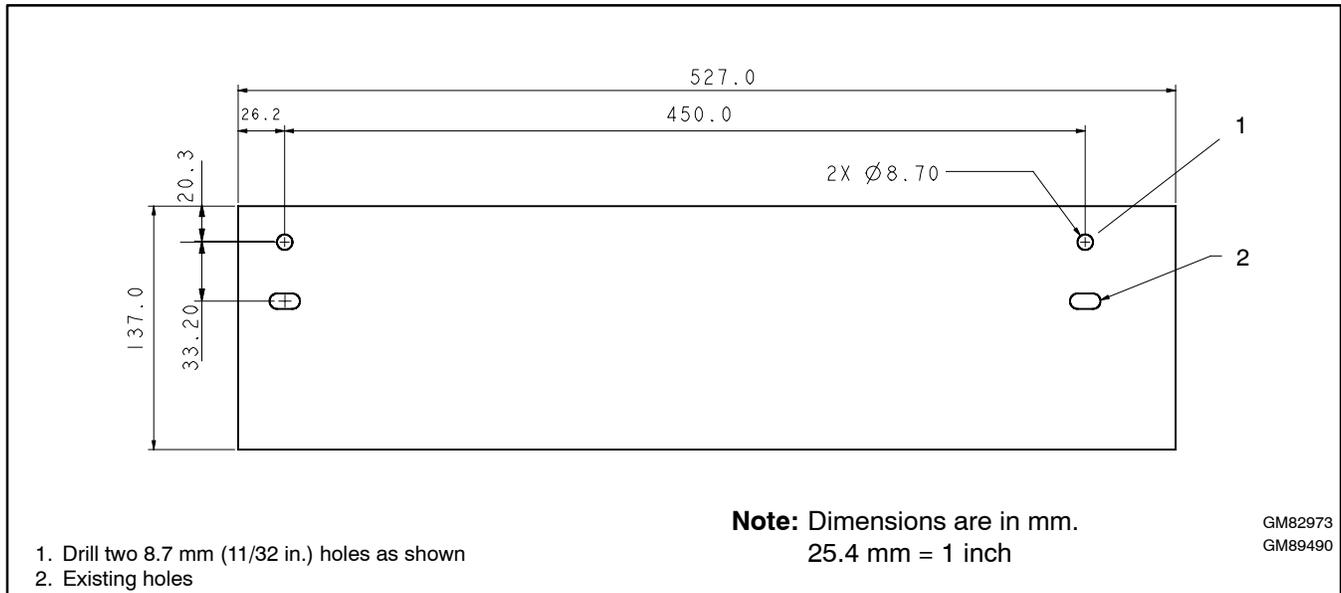

Figure 3 New Mounting Holes, Upper Mounting Bracket GM82973
5.1 See Figure 3. Drill two 8.7 mm (11/32 in.) holes 33.2 mm (1.3 in.) above the existing holes in the upper mounting bracket.